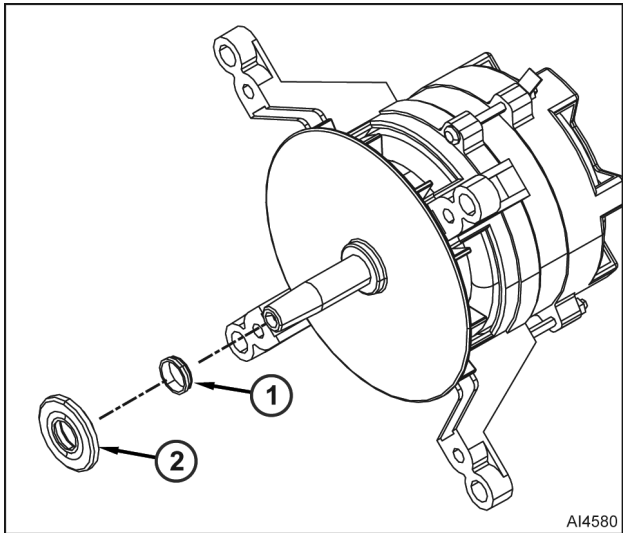

Fig. 25
NOTE: Motor shaft seal (2, Fig. 25) and wear ring (1) should also be replaced when blower motor is replaced.